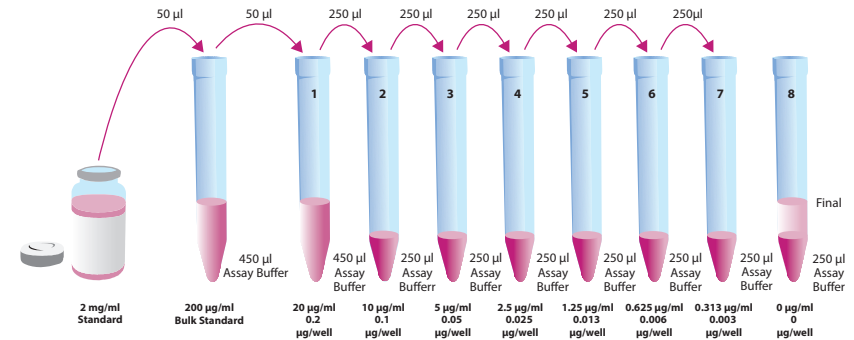
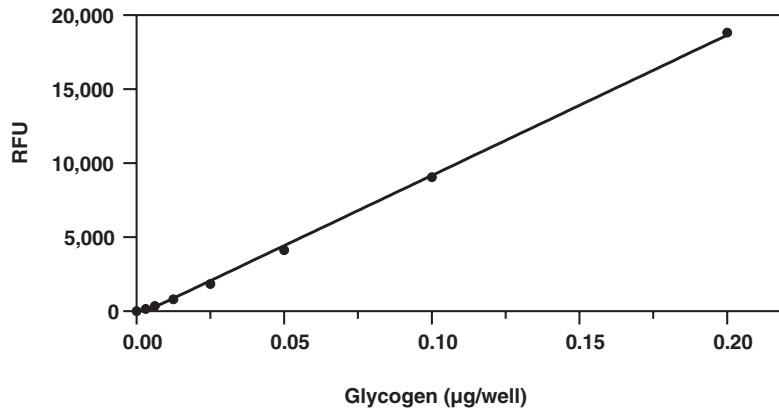

Figure 2. Preparation of glycogen standards - fluorometric
Figure 4. Glycogen standard curve - fluorometric assay
- Plot the corrected values (from step 2 above) of each standard as a function of the final concentration of glycogen from Figures 2 and 3. See Figures 4 and 54, on page 18, for typical standard curves.